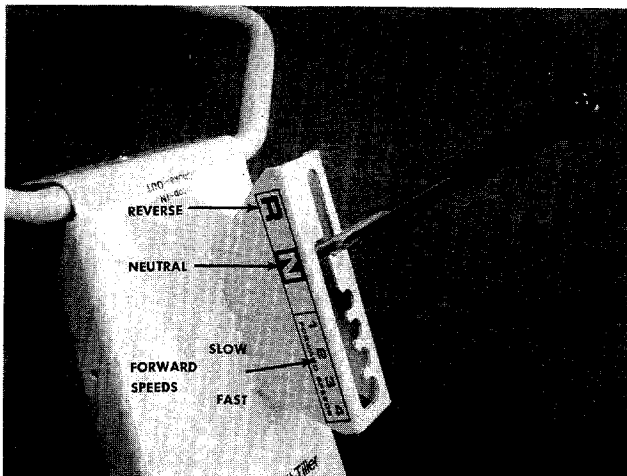

FIGURE 2-1. CONTROLS
The Control Lever is released from Neutral by moving it to the right and allowing the spring tension to pull the control lever into one of the four forward speeds. See Figure 2-1.
To stop the engine, push the throttle control all the way in. To operate the choke, pull the throttle control all the way out. See Figure 2-1.
To stop the engine, push the throttle control all the way in to the STOP position. See Figure 2-1. When the throttle control is in the STOP position, a switch blade is activated to short-circuit the spark plug.
Pull the control lever into the NEUTRAL position. The tines will not rotate. See Figure 2-1.
- Step 6. To reverse the direction of rotation of the tines, pull the control lever into the reverse position. The control lever must be held in reverse. See Figure 2-1.